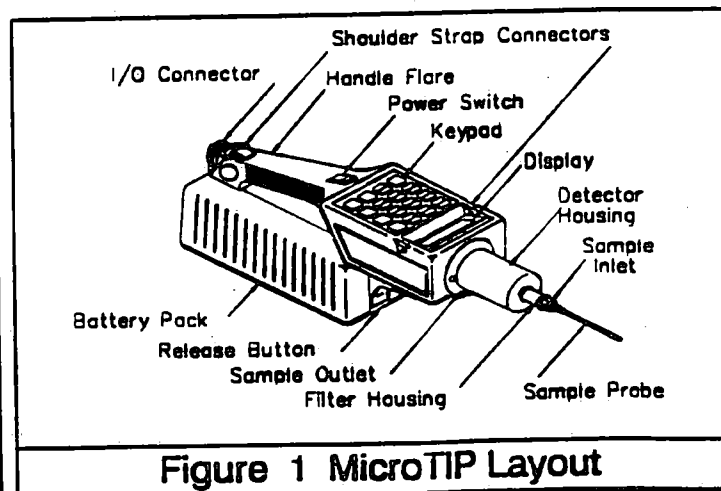

Figure 1 MicroTIP Layout
1. Ensure MicroTIP is off by pressing the front of the power switch. See Figure 1.
3. Press the release button on the bottom of MicroTIP and remove the battery pack by sliding it backwards. See Figure 1.